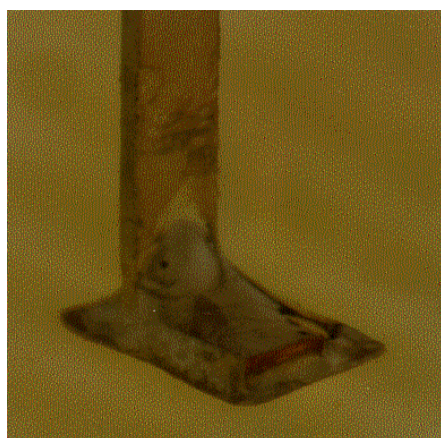

Figure 20
- C. For the lap and "J" leads, it is acceptable to have the toe of the lead a non-solderable surface, Figure 20.